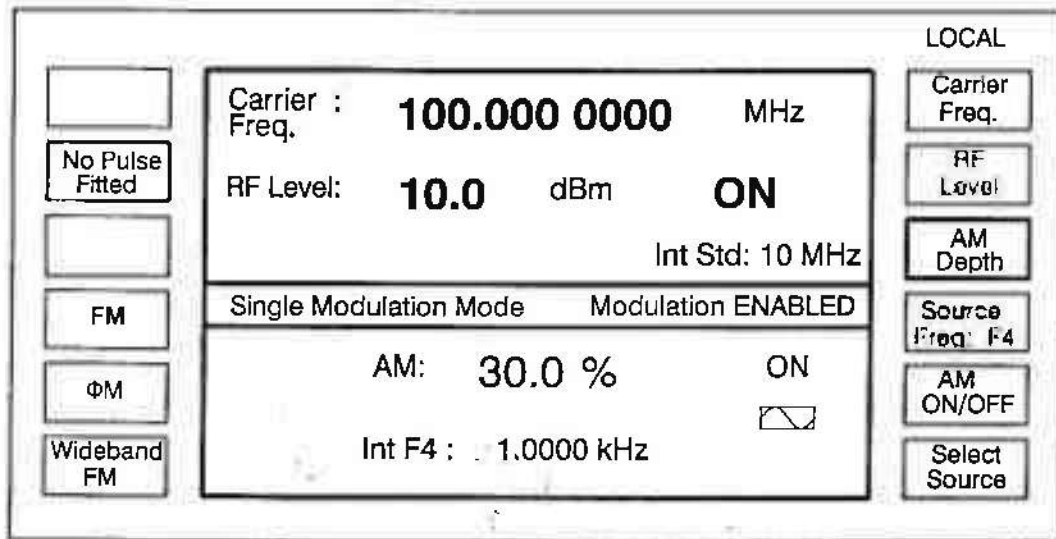

Fig. 5 Amplitude modulation - menu configuration
- (2) Press *[RF level]*. The *RF level* soft key label is now highlighted.
- (3) Using the numerical key pad, enter 10 dBm by pressing keys [1],[0] and the key marked [Hz/dB/rad]. Observe that the RF Level display changes to 10.0 dBm.
- (4) Press *[AM]* on the left hand side of the display. The menu will now change to display AM modulation parameters in the lower panel. The *[FM Devn.]* soft key on the right hand side of the menu changes to *[AM depth]* and this label is now highlighted. *AM* disappears from the left hand side.
- (5) Using the numerical key pad, enter 30% AM depth by pressing [3], [0] and [kHz/ μ V/%]. Observe that the *AM depth* display changes to 30%. The display will now be as in Fig. 5 and the selected signal will now be present at the RF OUTPUT socket.
- (2) Press the [Δ] hard key. The total shift menu is displayed as shown in Fig. 5. This menu displays the difference between the modified value and the **keyed-in value**. **Parameters** can be incremented or decremented by using the [↑] or [↓] key or the control knob, see 'Using the control knob'. To cancel any changes made here, press [Return Value]. This will restore the setting of the selected parameter to the **keyed-in value**, i.e. the indicated shift will return to zero.
- (3) Select the parameter for which increments are to be set, e.g. [Carrier Shift].